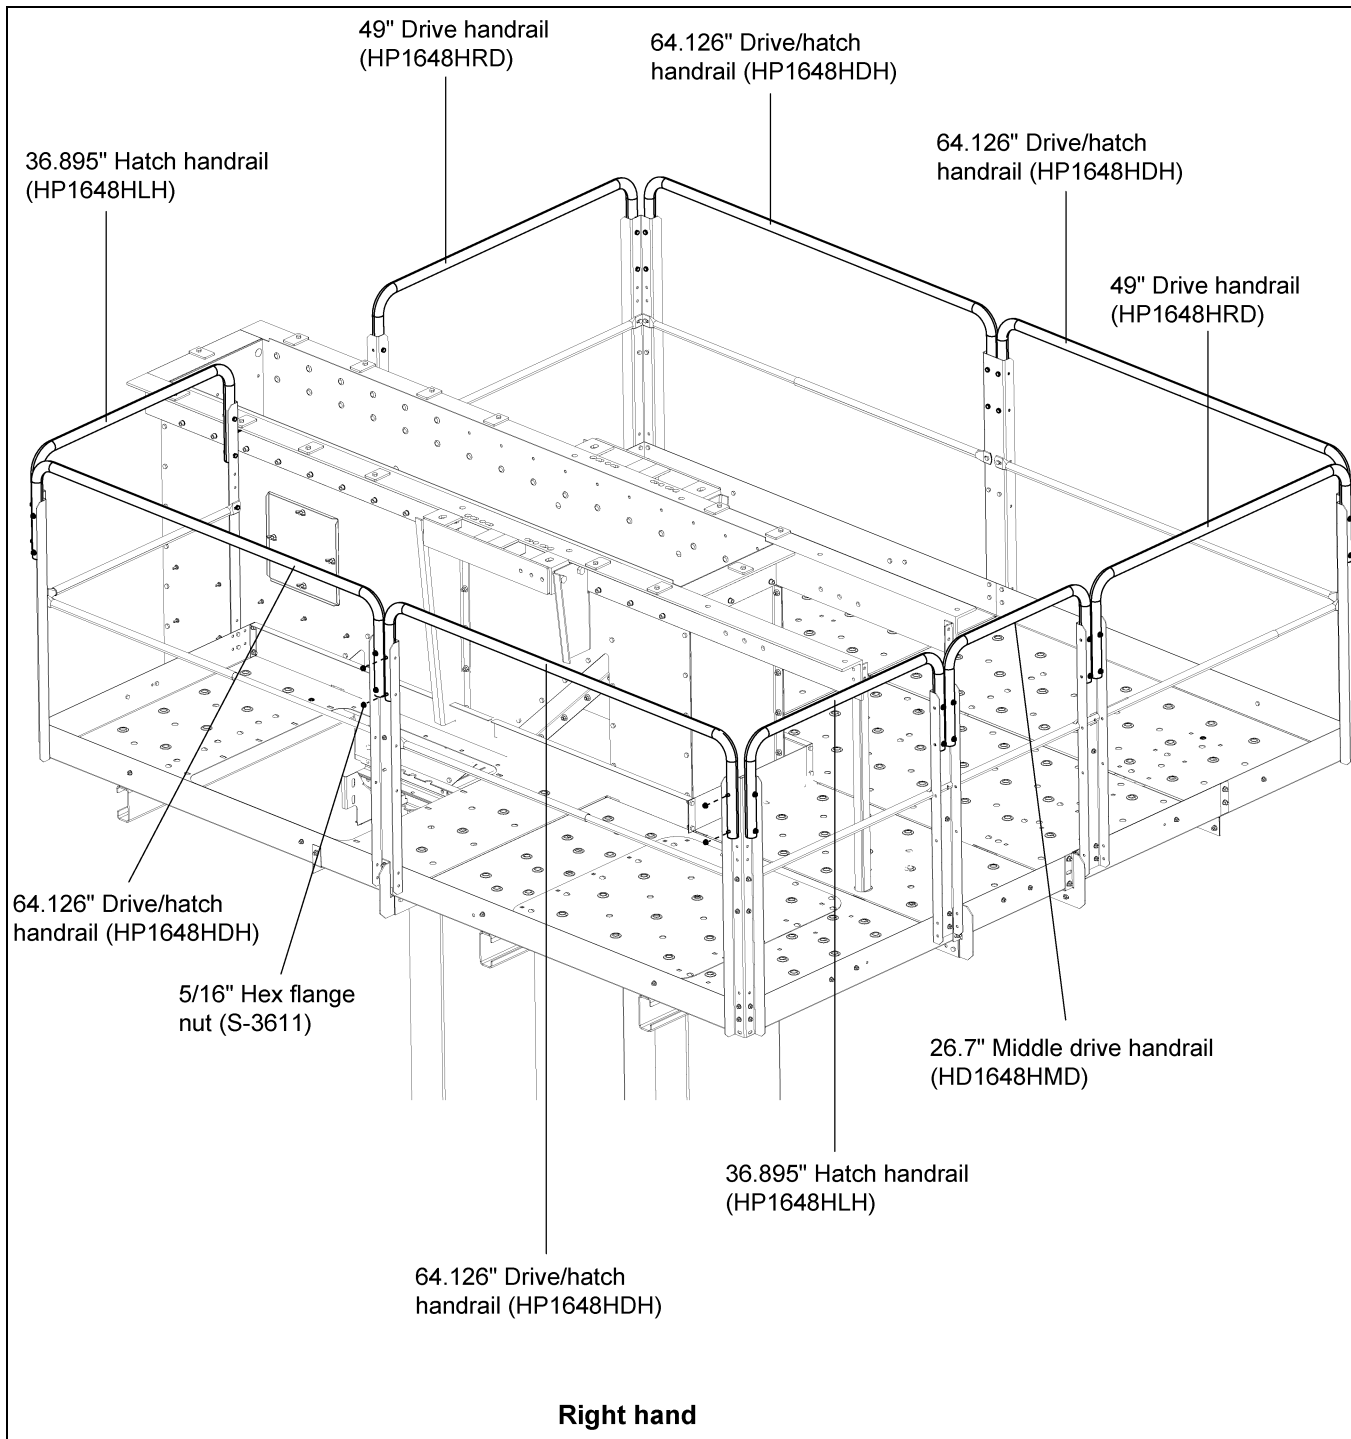
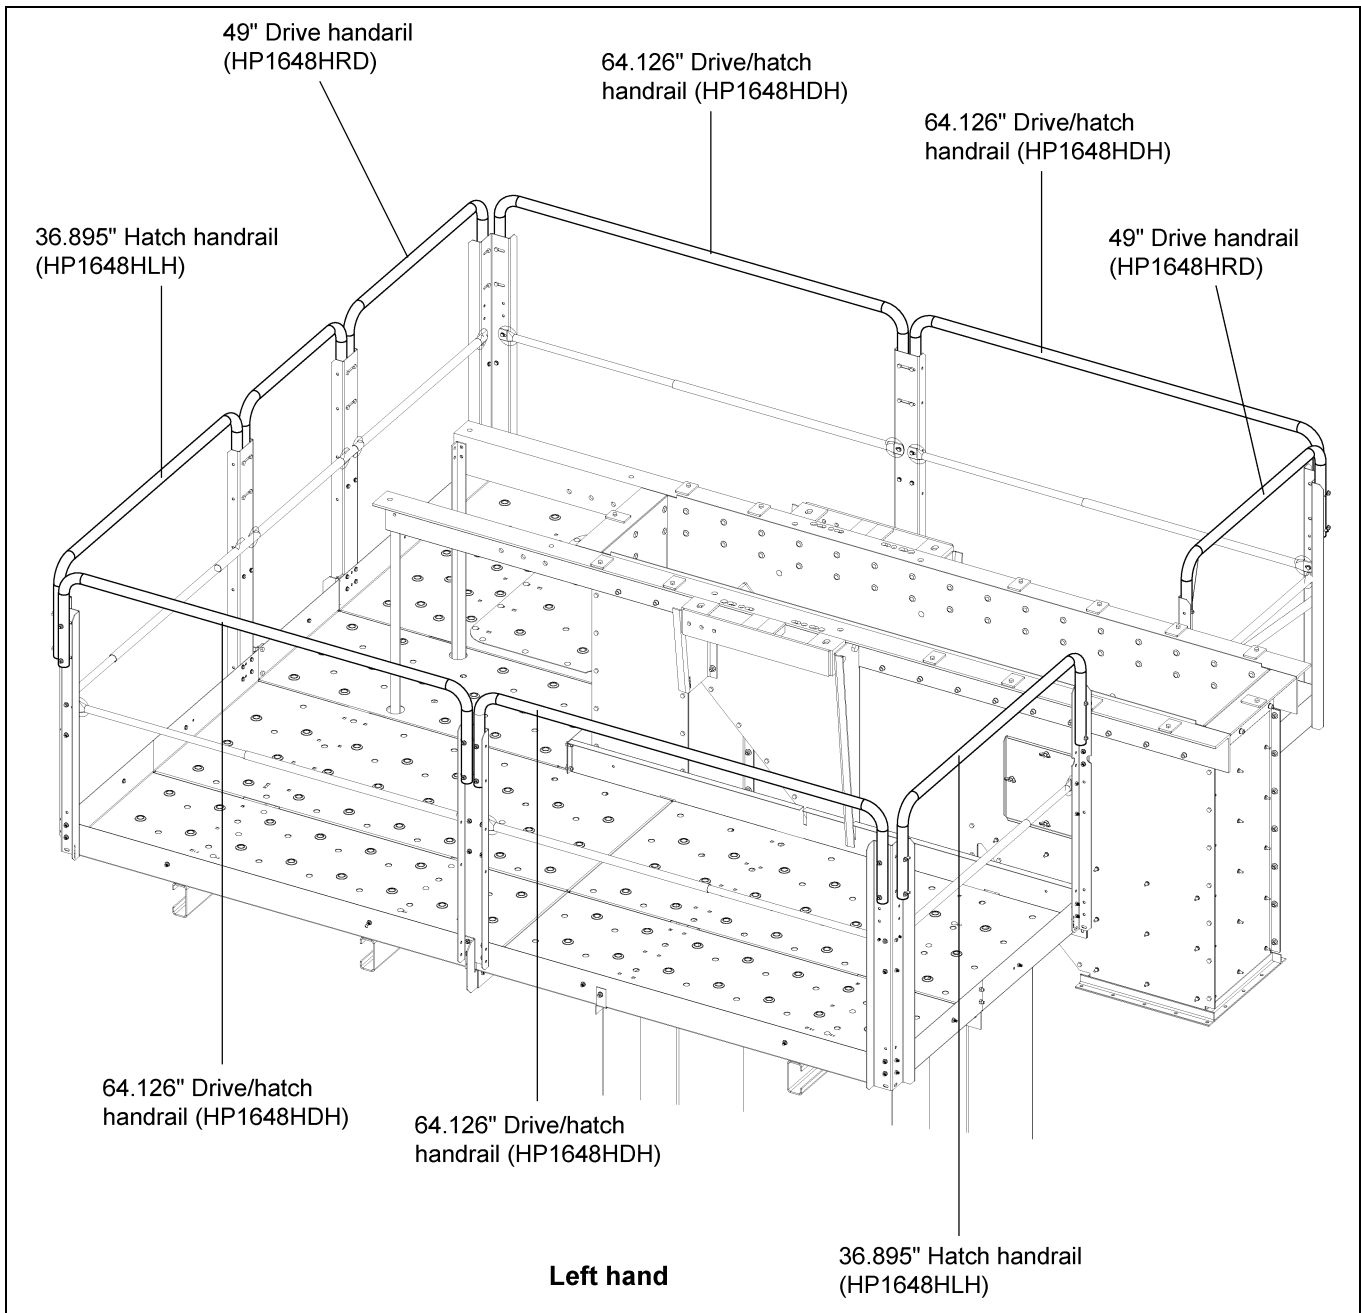

Figure 10L Right Hand Drive Rail Locations
Figure 10M Left Hand Drive Rail Locations
1. Attach handrails to the handrail posts using 5/16" x 2" bolts (S-7877) and hex nuts. Use Figure 10L below and Figure 10M on Page 88 for handrail location.